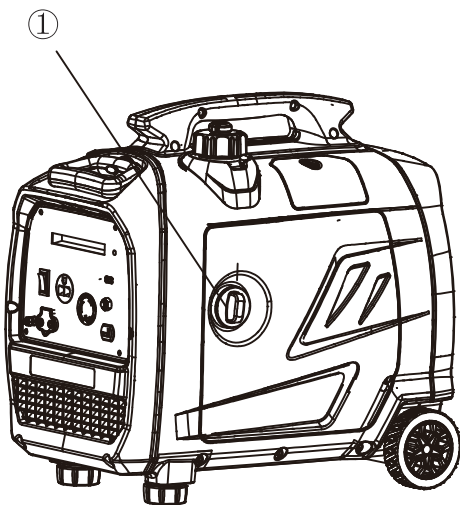

Figure 1
IN ORDER TO ADD MOTOR OIL YOU WILL NEED TO REMOVE THE SIDE PANEL FROM THE UNIT(Figure1).
Using a #2 Phillips-head screwdriver remove screws ① (seen in figure 1) and lift up and away to remove the side panel.